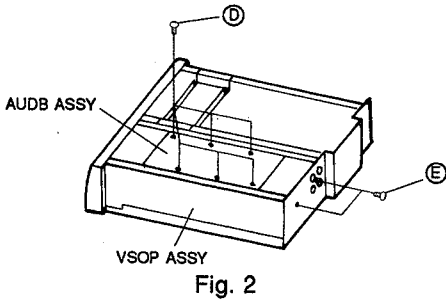

Fig. 2
4. Remove the 6 screws **D** that stabilize the AUDB ASSY. (Fig. 2)
5. Remove the 2 screws **E** on the rear side. (Fig. 2)